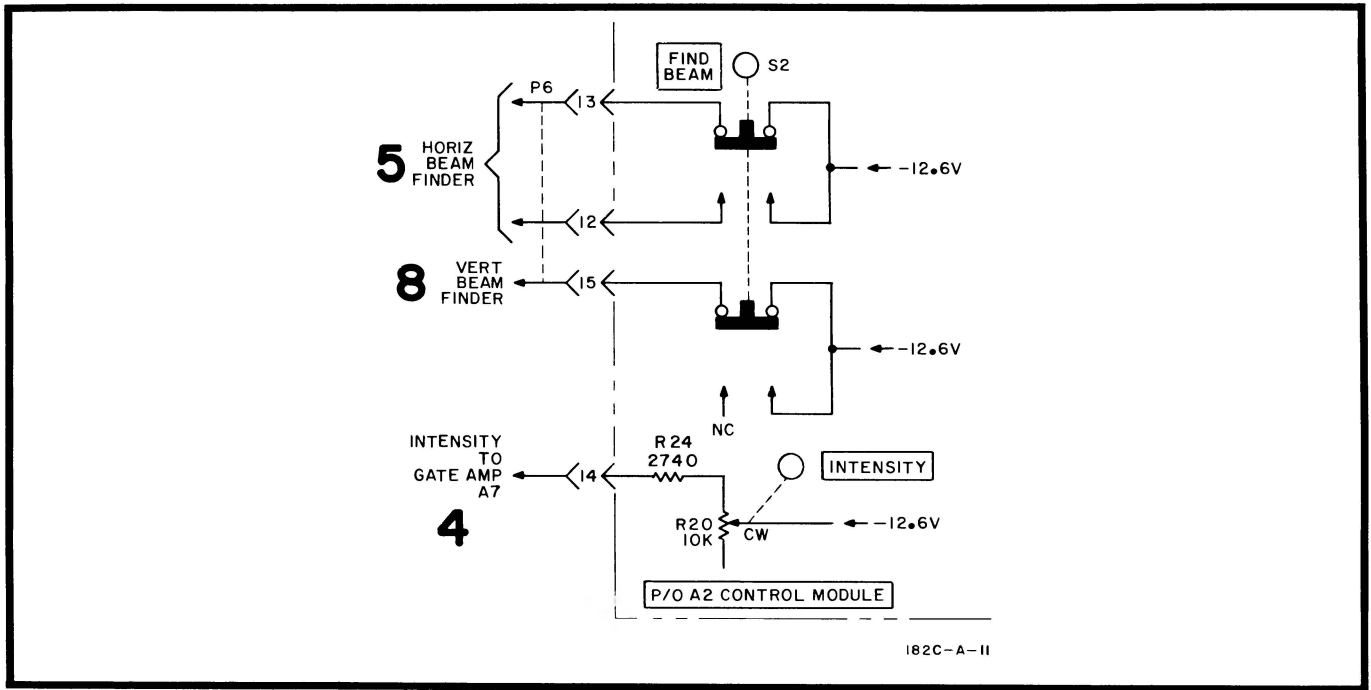
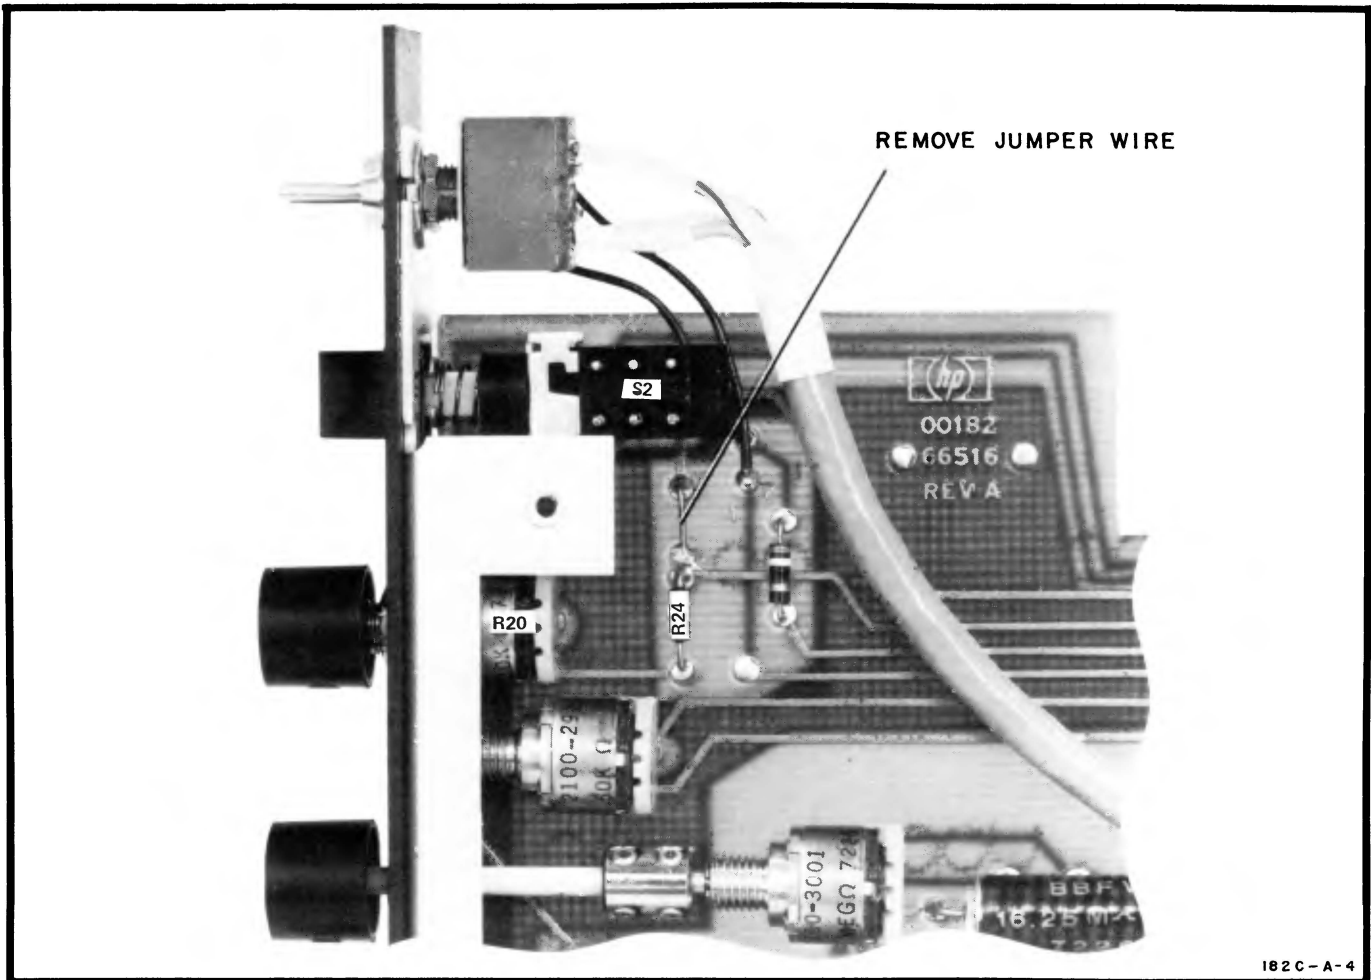

Figure 7-1. Option 011 Beam Finder Schematic
Figure 7-2. Location of Option 011 Circuit Change
011	<p>Standard CRT (VI) is replaced by P11 phosphor CRT, HP Part No. 5083-3942. The intensification function of the FIND BEAM switch is deleted on Option 011 instruments equipped with P11 phosphor CRT to eliminate phosphor burn. Figure 7-1 shows the change to the schematic for the Control Module, A2. Figure 7-2 illustrates the location of the jumper wire to be removed. If the CRT is replaced with a standard P31 phosphor CRT, the FIND BEAM intensification capability may be restored by replacing the jumper wire.</p>